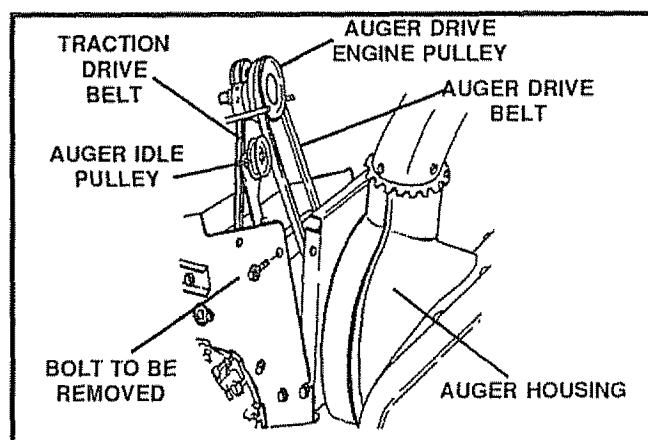

FIG. 27
- Loosen the auger idler pulley (See Fig. 27) and pull away from the belt.
- Remove the two top bolts (See Fig. 27) that secure the auger housing to the motor mount frame.
- Pull the track drive idler pulley (See Fig. 27) back and slip the belt past the idler pulley.